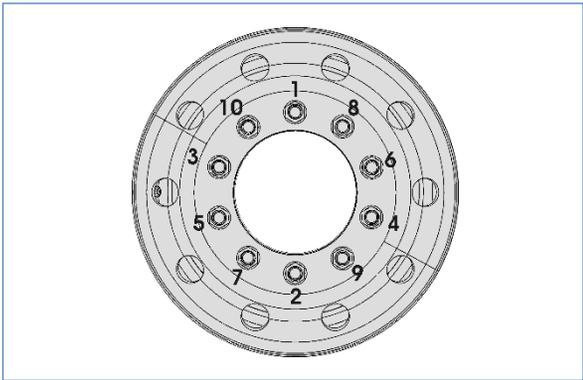

Figure 43
27. Screw in the hex stud nuts (refer to Figure 43 for sequence) so that the wheel will position itself concentrically with hub. This is important, otherwise wheel may be eccentric with hub and will not run straight. In this initial step, slightly tighten the nuts to correctly position the wheel.
28. Tighten stud nuts progressively as shown in Figure 43. The final tightening should be done with a torque wrench. Tighten stud nuts.